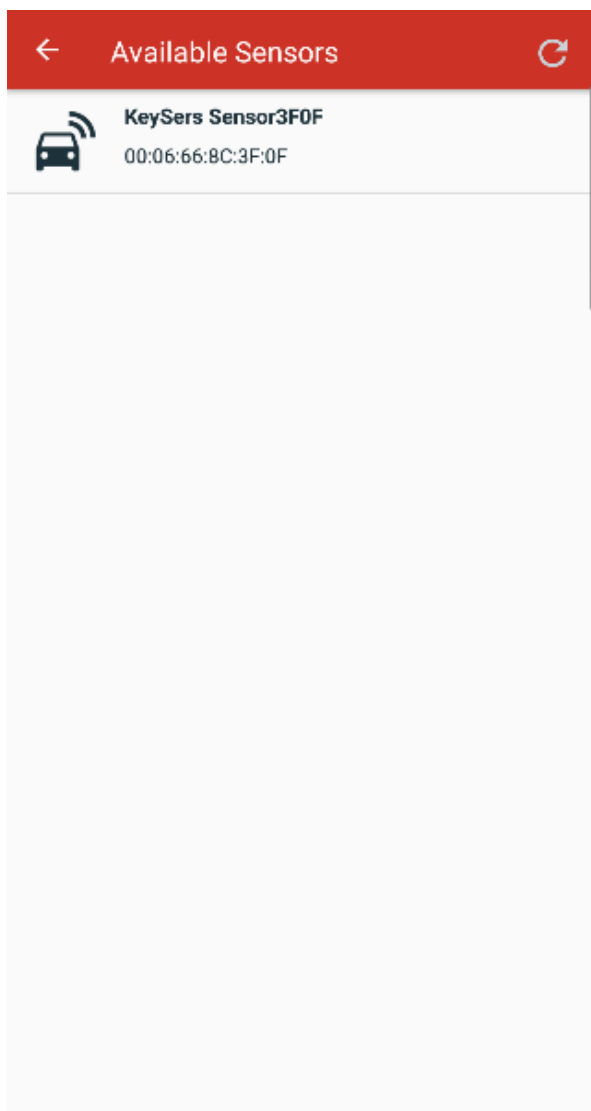

Figure 8: Available sensors menu
- Select “YES” and an “Available Sensors” menu will show on screen once a sensor(s) is found, shown below in Figure 8.